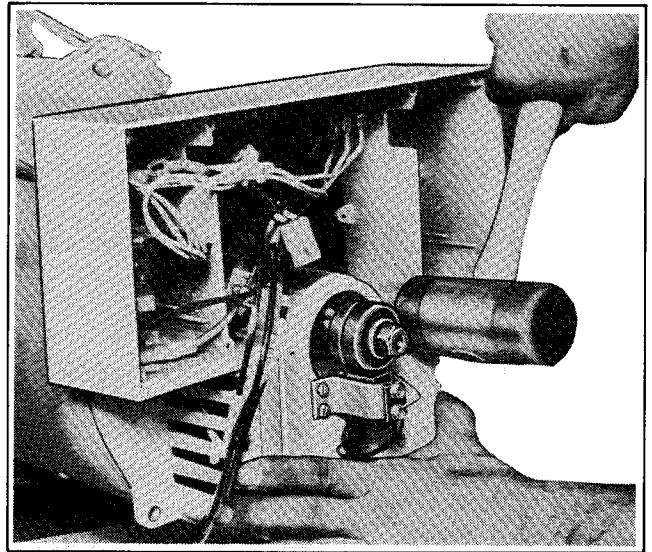

Figure 8-3. Installing End Bracket
5. Taking caution not to pinch any wires, position end bracket on stator. Bump snugly into place using a rubber mallet (Figure 8-3). Replace four long overbolts and torque to 75 in. lbs. (8.5 Nm).